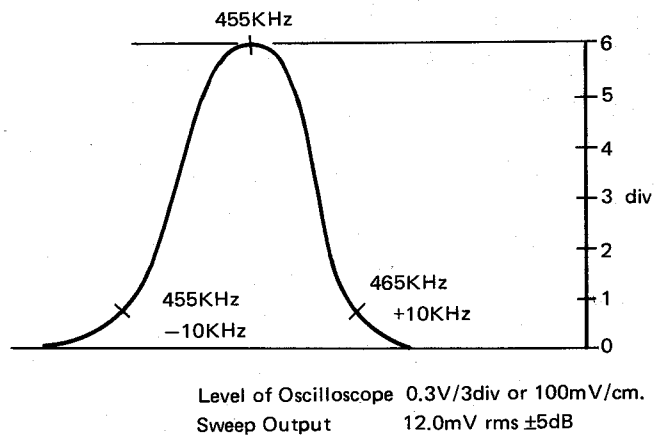

Fig. 19
2. Adjust T1101, T1102 and T1103 to obtain the wave form as shown in Fig. 19.